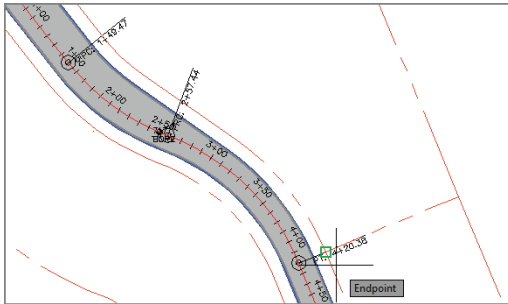

FIGURE 12.9 Selecting the beginning point of the frontage
5. When you're prompted to select the first point on the frontage, click the western endpoint of the lot line you previously created at station 4+20.38 (0+128.13), as shown in Figure 12.9.